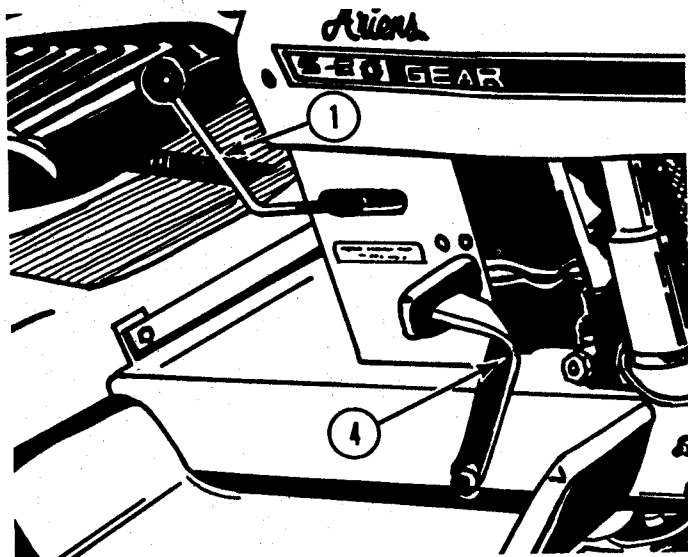

Figure 1
- ① **IMPLEMENT POWER CLUTCH** – Figure 1
- ④ **HYDROSTATIC NEUTRALIZER AND BRAKE PEDAL** (Hydrostatic Models) – Figure 1
4. Place implement power clutch lever (1) Figure 1, in the rear (disengaged) position.